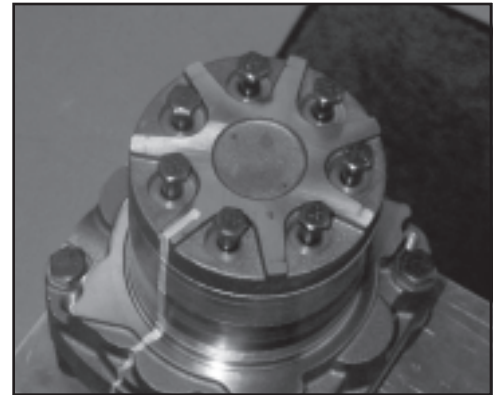

Figure D2
2. Make an alignment mark on the motor and brake assembly prior to disassembly. SEE FIGURE D2